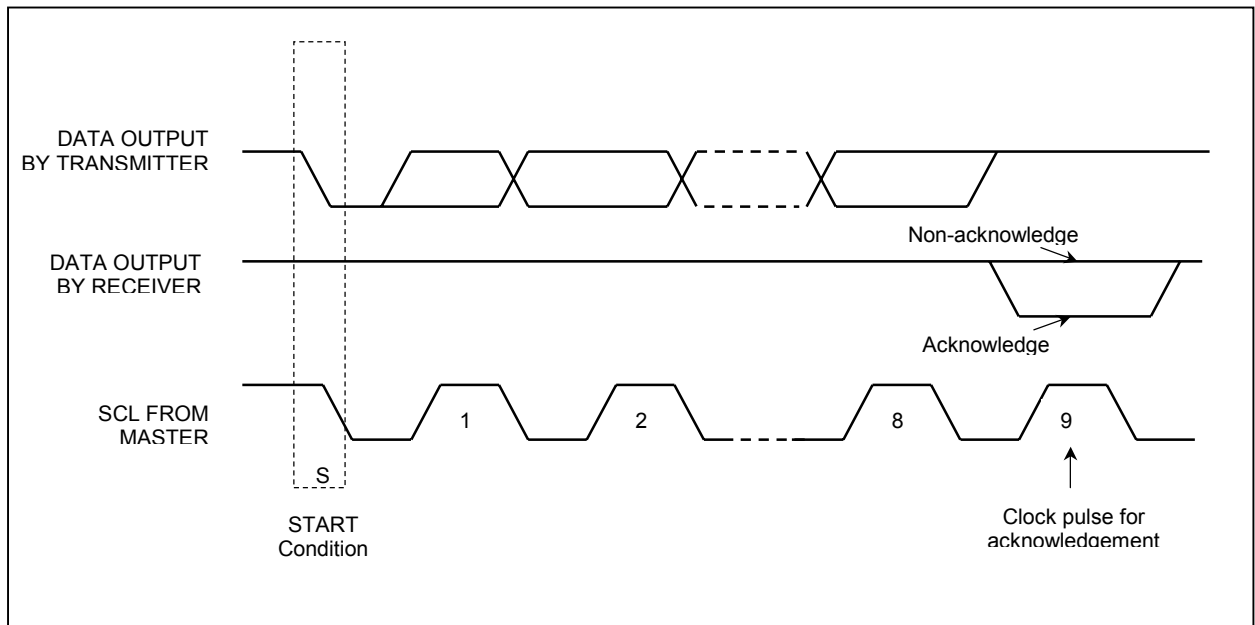

Figure 9 Definition of the acknowledgement condition
- 4) An acknowledgement signal will be generated after receiving one byte of data, including the slave address and the R/ \bar{W} bit. Please refer to the figure 9 on page 22 for the graphical representation of the acknowledge signal. The acknowledge bit is defined as the SDA line is pulled down during the high period of the acknowledgement related clock pulse.
- 4) An acknowledgement signal will be generated after sending one byte of data, including the slave address and the $\overline{R/W}$ bit. Please refer to the figure 9 on page 22 for the graphical representation of the acknowledge signal.